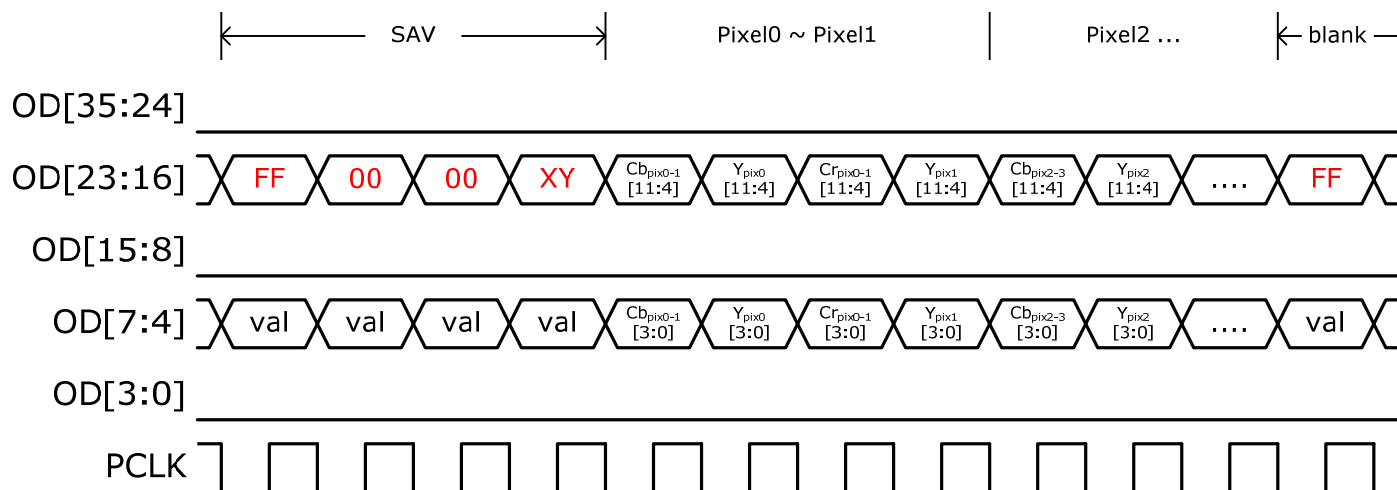
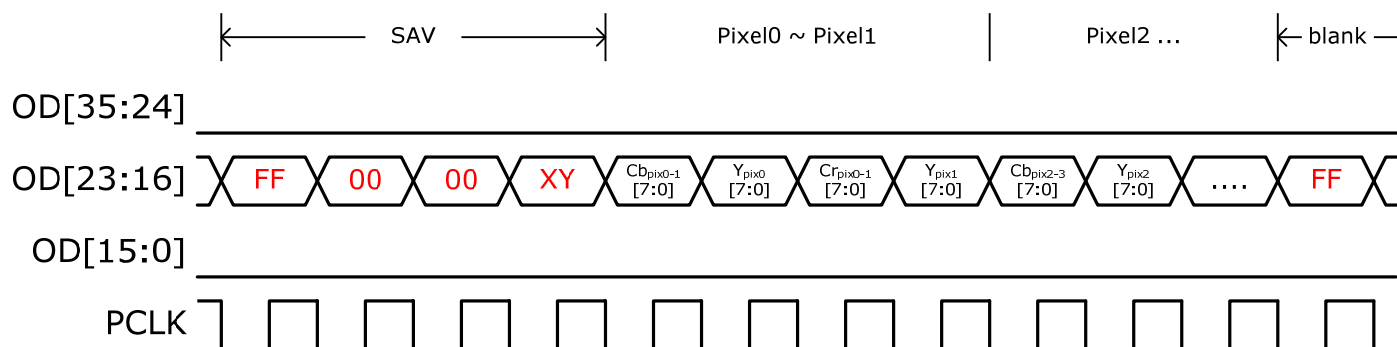

Figure 13. 12-bit CCIR-656
Figure 14. 8-bit CCIR-656
The CCIR-656 format is yet another variation of the YCbCr formats. The bus width is further reduced by half compared from the previous YCbCr 4:2:2 formats, to either 8-bit, 10-bit or 12-bit. To compensate for the halving of data bus, PCLK frequency is doubled. With the double-rate output clock, luminance channel (Y) and chroma channels (Cb or Cr) are alternated. CCIR-656 format supports embedded syncs only and the DE period should contain an even number pixels. This format is only valid for single pixel mode. Figure 13 and Figure 14 give two examples.